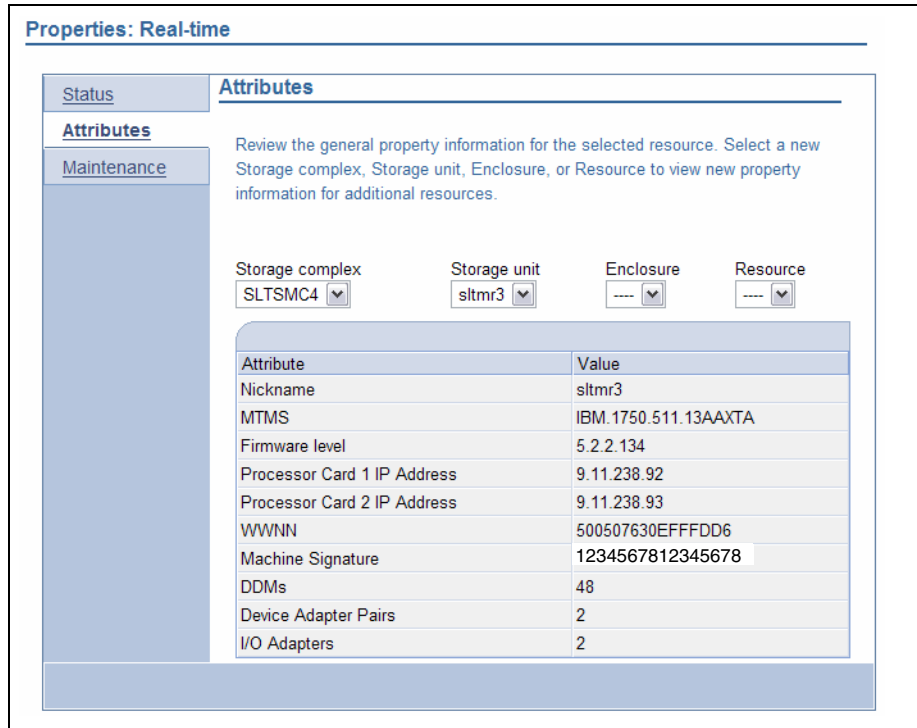

Figure 8-3 DS6000 Properties window - Attributes tab
- You should now be looking at the Attributes tab of the Storage Unit Properties window (see Figure 8-3).